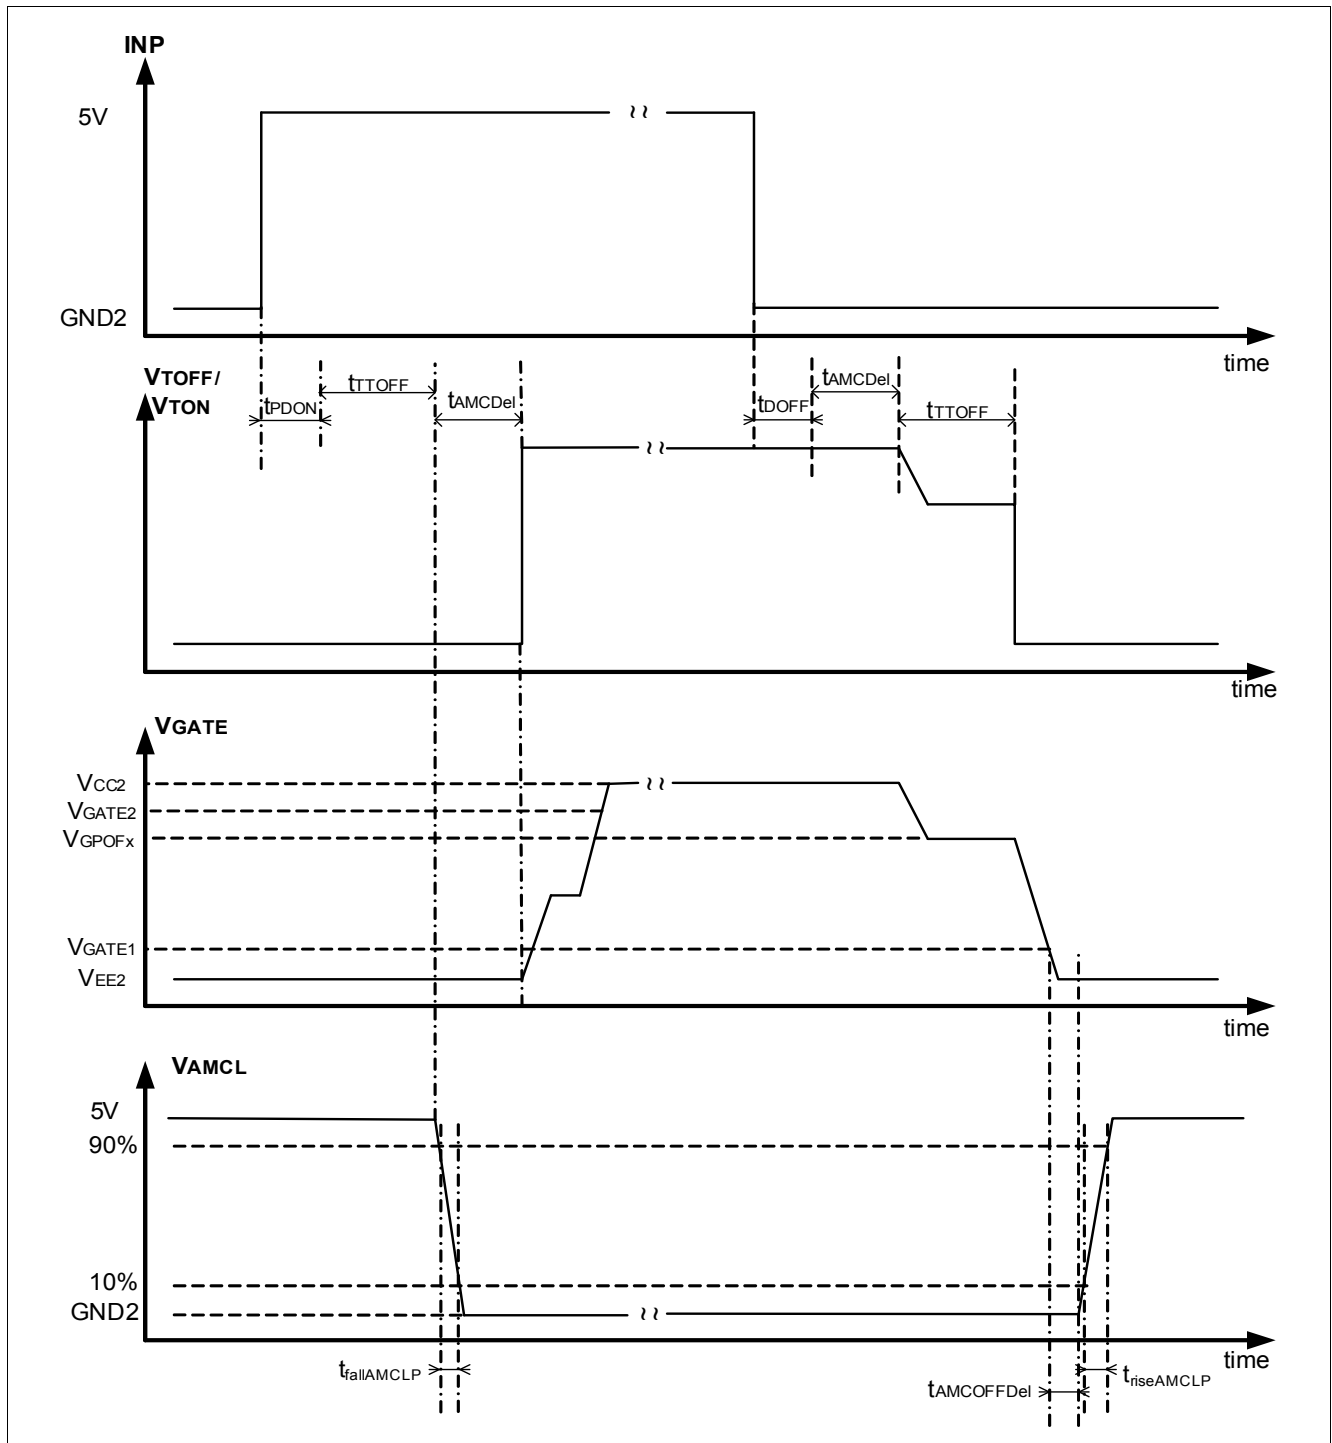

Figure 16 AMCLP operation
*Note:* The timing  $t_{DOFF}$  doesn't consider the **SCFG.AMCLD** setting (**Figure 16**). The regular turn-on/off processing will be delayed by the **SCFG.AMCLD** value if setting is  $> 0$  (refer to **Table 59**).
At turn-on, in order to avoid the risk of cross-current in the output stage of the device, a delay can be generated in order to delay the PWM control signal (Figure 16). The delay is configured via bit field **SCFG.AMCLD**.